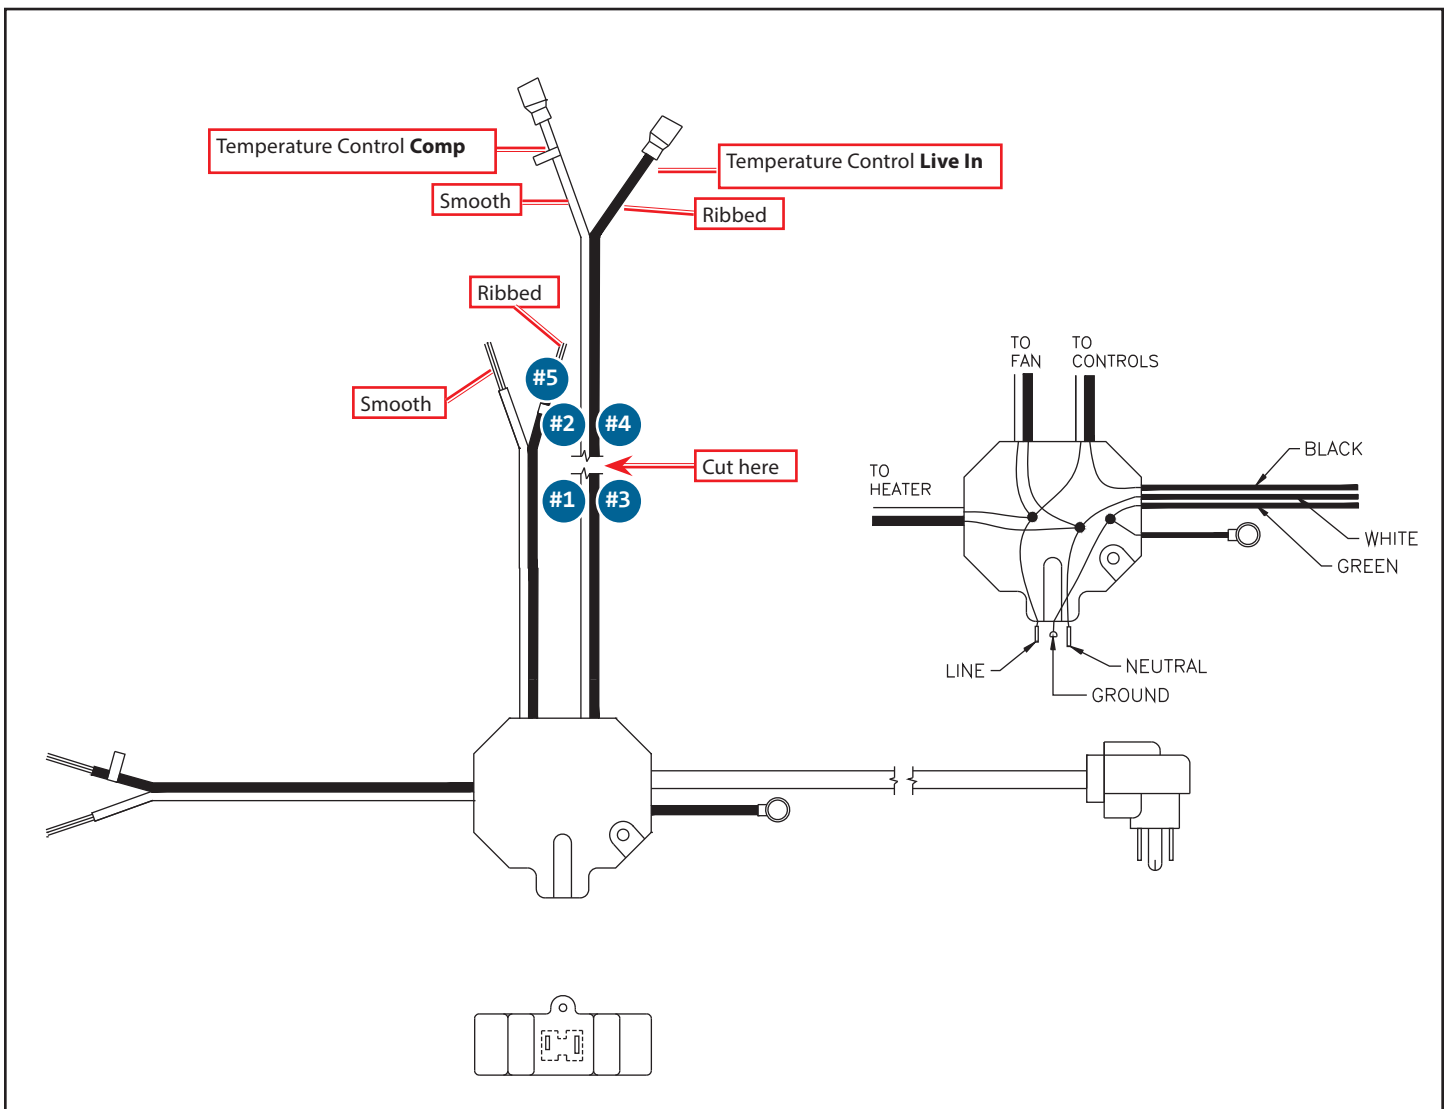

Fig. 6. Black/Blue 6-wire terminal block diagram.
2. Cut the terminal block wires going to the temperature control. See fig. 6, "Cut here".
3. With the provided lever connectors, connect the relay wires to the terminal block wires as follows (see fig. 6):